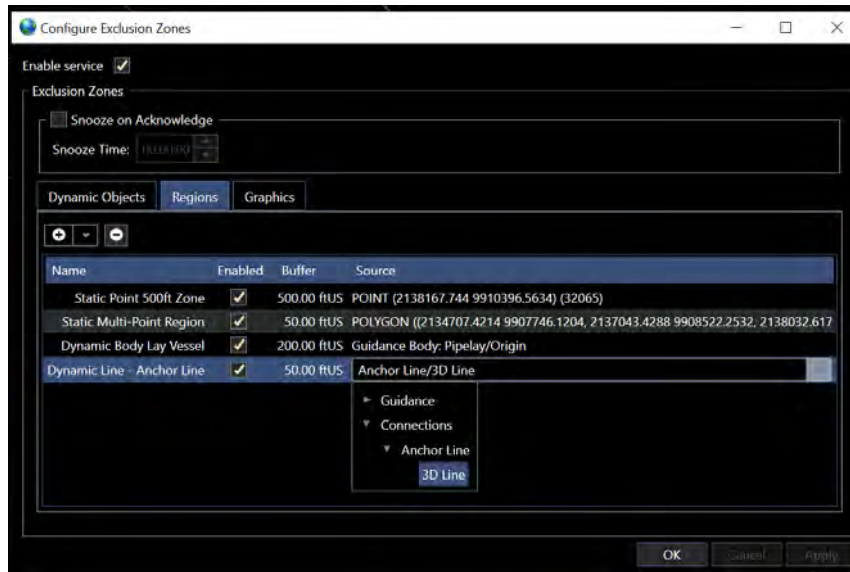

FIGURE 19-20 DYNAMIC LINE - CONFIGURATION WINDOW
- iii. **Source:** Select the desired dynamic line from the drop down list of available dynamic lines such as Guidance Calculations and 3D Polyline Connections (see Figure 19-20)